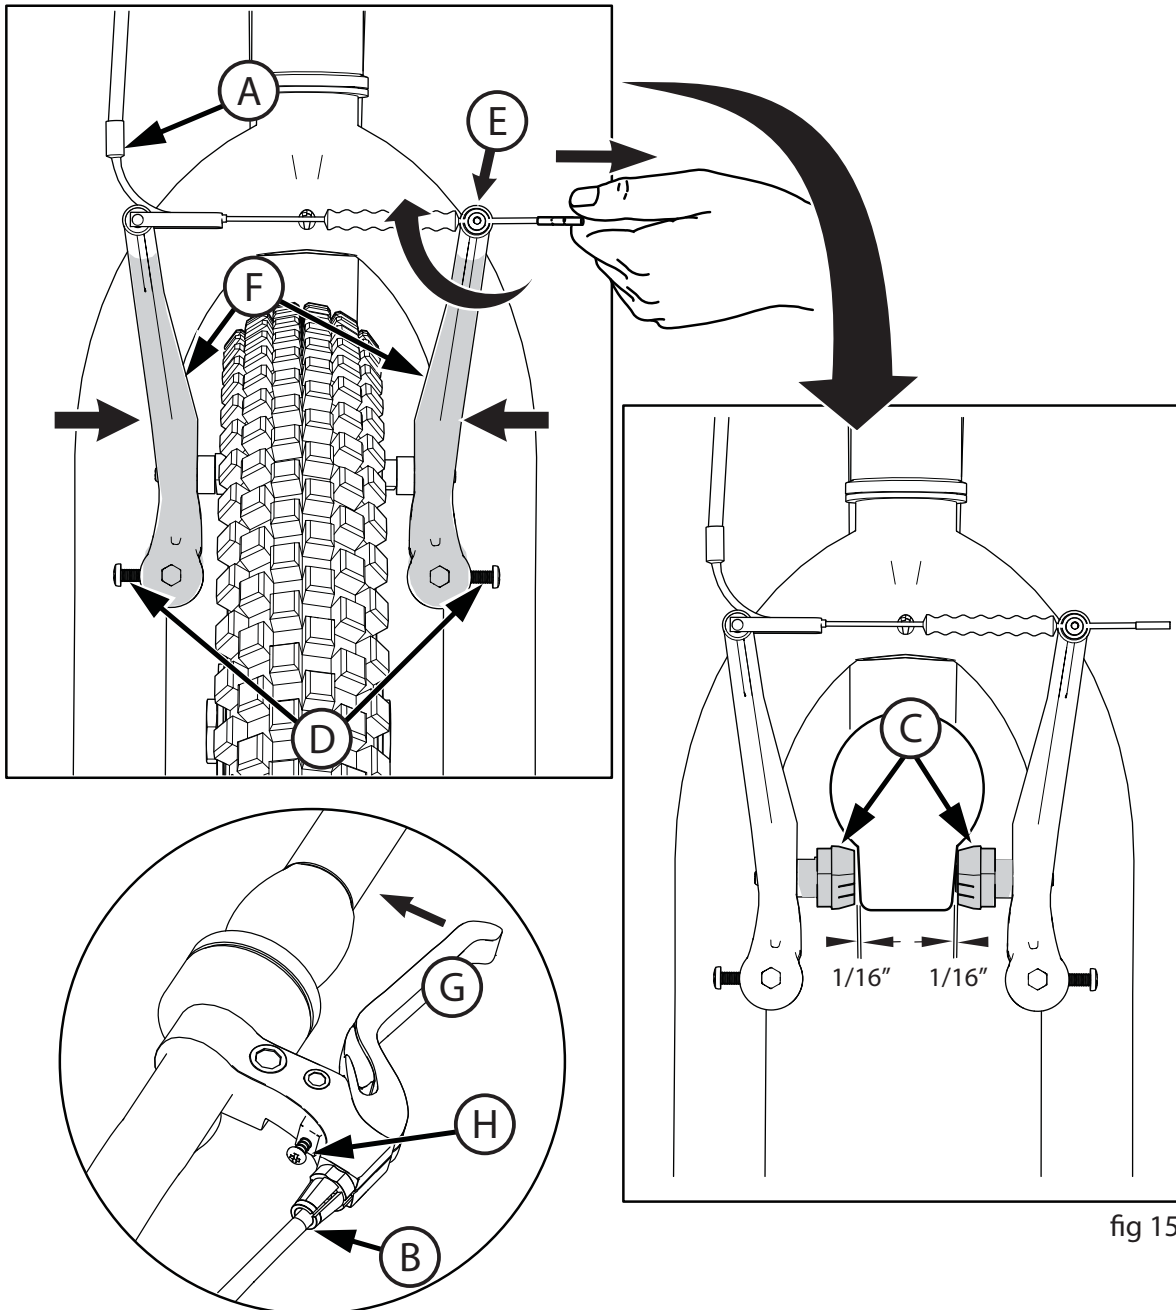

fig 15
Put the brake shoes the correct distance from the rim (fig 15):
1. Repeat these steps until the brake shoes are 1/16 inch from the rim and the Brake Lever (G) does not go all the way to the grip when squeezed (**fig 15**).
### Test the tightness of the cable clamp (**fig 15**):